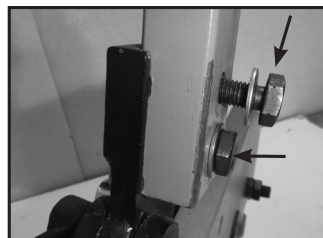

Fig 2
3. Bolt the Handle (1) to the Metal Shear using the two bolts (3) and washers supplied (Fig 2).